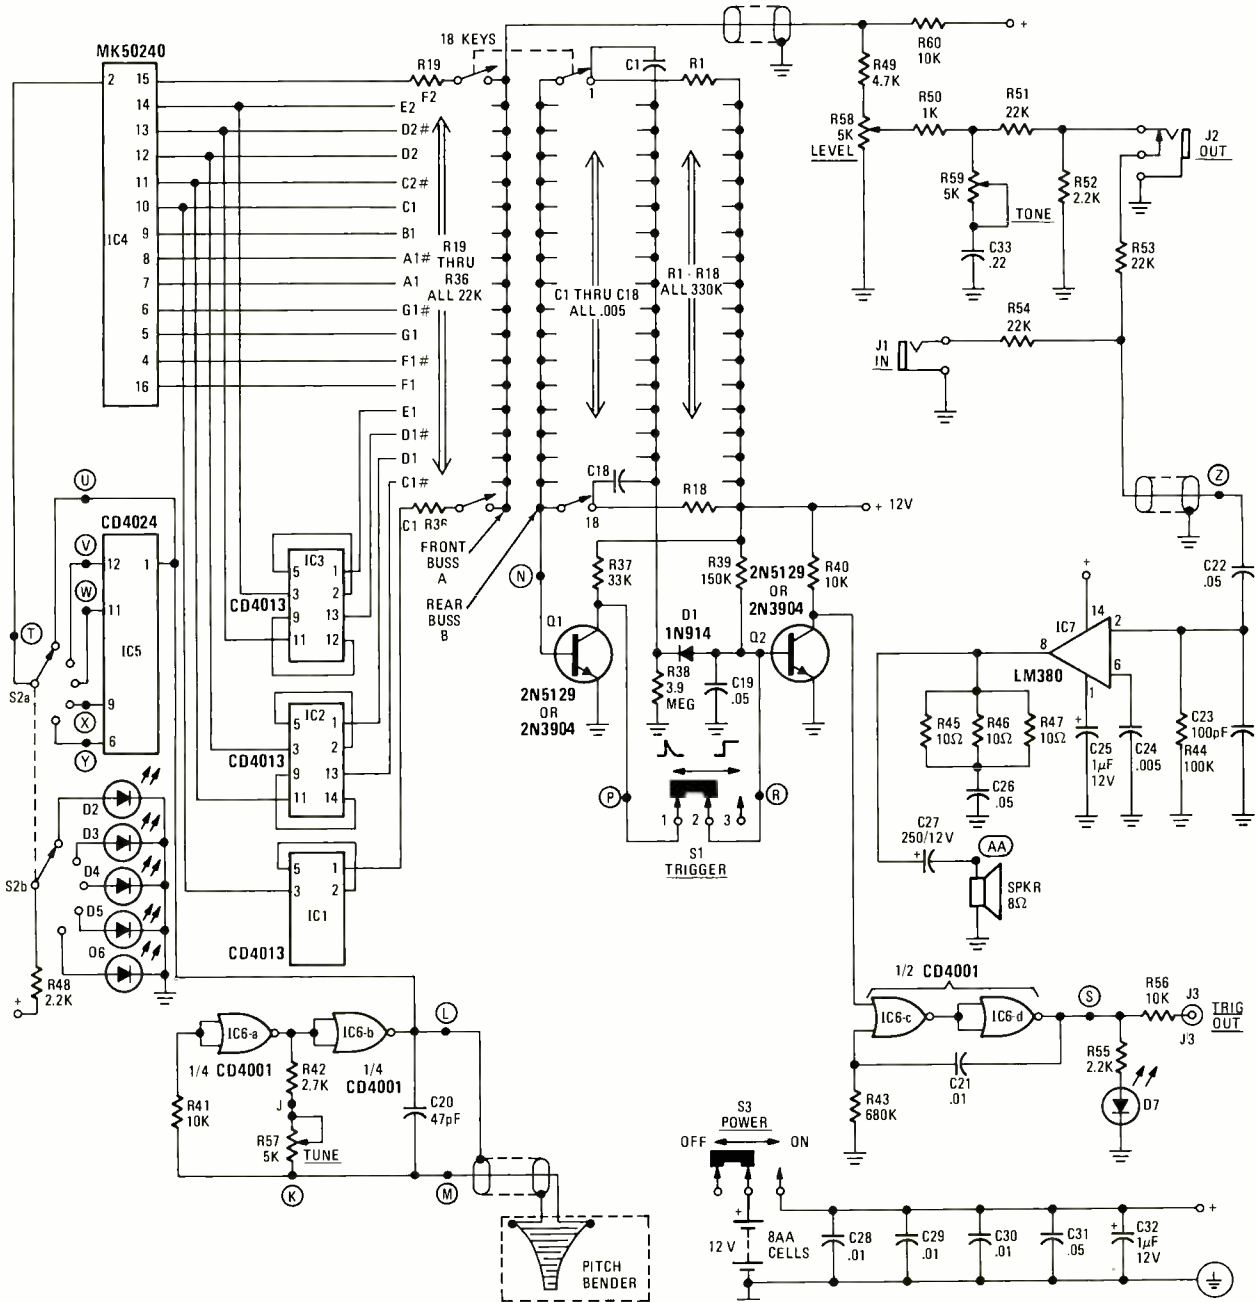

FIG. 1—COMPLETE SCHEMATIC, OZ MINI-ORGAN AND POLYTONIC PITCH SOURCE FOR MUSIC SYNTHESIZERS.
Figure 1 shows the schematic diagram of the Automotive Digital Clock. Protection of the automobile wiring and the battery from shorts in the clock, as well as protection for the clock from reverse-polarity damage, is provided by the F1-D1 combination and F2. If the input voltage to the clock is reversed in polarity, D1 will be forward-biased and F1 will blow very rapidly. The Zener diode, D2, protects the clock from voltage transients or the application of voltage from an incorrectly adjusted voltage regulator or battery charger.
**FIG. 1—COMPLETE SCHEMATIC, AUTO DIGITAL CLOCK.** Components marked with an asterisk are optional—for alarm clock operation. Dotted-line connection from Q3 to VDD must be made—and connection from Q3 emitter to -5 volts cut—if incandescent displays are used. Emitter of Q3 may be connected to either VDD or to -5 volts, but not to both at the same time.